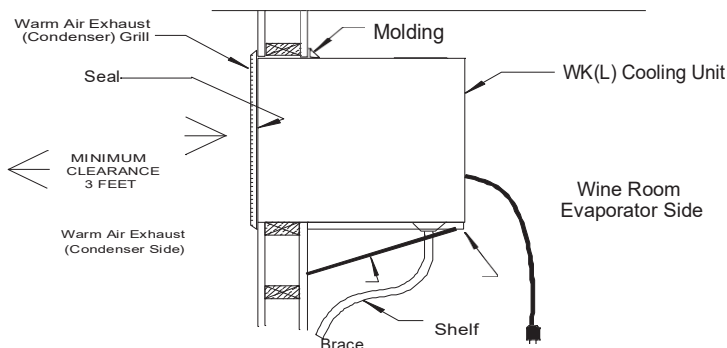
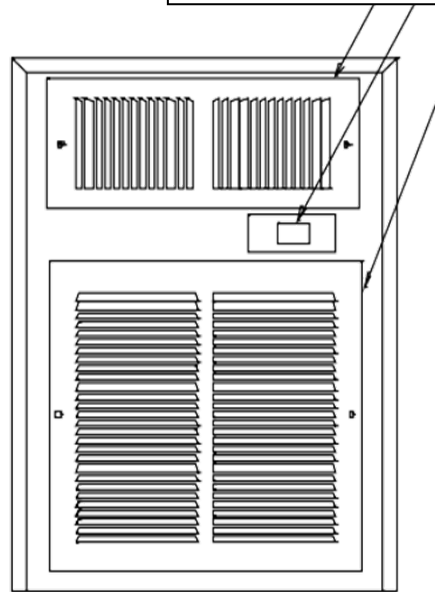

Figure 3
Figure 1
- ☞ This is a mechanical piece of equipment; it will make noise and produce heat on the warm side exterior condenser grille (Fig. 3). Remember, unit installation location is not only important inside the wine cellar, but just as important is where the warm side exhaust air is being rejected.
Before installing the unit, inspect it again for any shipping damage. Test the unit by placing it in a room where the temperature is above 65°F. Position the unit to allow cold air to flow from evaporator outlet. (See Fig. 1) Plug the unit's electrical cord into a properly grounded electrical outlet of adequate capacity (see unit specification for unit electrical requirements).
The Sentry III has no "off" position; therefore, it will begin to run within 5 minutes of being plugged in. Allow it to run for a minimum of 15 minutes. There should be a flow of cool air from the evaporator side upper grille (see Fig. 1) and warm air should be flowing from the upper opening on the warm air exhaust (condenser) grille (see Fig. 3). If there is no airflow or no change in temperature on either side, contact your dealer.
Make sure that the warm air exhaust condenser grille can be properly attached to the unit (see Fig. 3).
If the unit is to be installed above floor level, construct a shelf as shown in Fig. 3. This shelf must be capable of supporting the weight indicated in the specifications. NOTE: Insulation placed between the unit and the shelf will reduce additional noise and help reduce condensate from forming on the underside of the unit.
Place the unit through the opening with the warm air exhaust side, flush to the outside of the wall (see Fig. 3). Attach the warm air exhaust condenser grille to the unit and to the wall with screws supplied with grille. Note: the unit may be installed with the cold side flush to the inside wall, however, two provisions must be made. First, insure the warm air exhaust grille will be installed. Second, insulate and vapor barrier the framed opening to prevent moisture in the wall from condensing on the cold surface of the cooling unit. Please remember that in all cases the warm air exhaust condenser grille must be directly attached to the warm side of the unit. Do not leave an air gap between the unit's surface and the warm air exhaust condenser grille. **The unit will not work properly without this grille.** The exhaust condenser grille has only a white primer coat. If the exhaust condenser grille is installed on an outside wall it should be coated with an appropriate paint.
**BREEZAIRE** is extremely proud of the quality and reliability of its products. Experience has shown that of the small number of problems encountered, the large majority are due to improper unit selection or enclosure construction. Should the cooling system be suspected of malfunctioning, check the temperature of the air being exhausted from the upper part of the warm air exhaust condenser grille. If it is warm, the unit is working. A further check may be made by comparing the air temperature entering the lower grille on the cold side (Evaporator side) with that leaving the upper cold side grille. (see Fig. 1) If the air leaving the unit is 6°F or more degrees colder than the temperature entering, the unit is working properly. In some cases, improper placement or installation may cause the unit's performance to be compromised. In situations where the ambient relative humidity is very low, the desired enclosure relative humidity may not be achieved without adding moisture. To add moisture to the enclosure only use slow, natural evaporation from a small porous water container. Do not use a humidifier.
Improper placement or installation may cause the unit's performance to be degraded. If the unit is exhausted into a confined area with poor ventilation or duct work, it will not be able to reject the heat and moisture it is removing from the enclosure and a malfunctioning unit will be suspected. If an obstruction to the flow of fresh air into or from the cooling unit (see Fig. 3) is stopped or restricted for any reason the unit could heat rather than cool the enclosure.